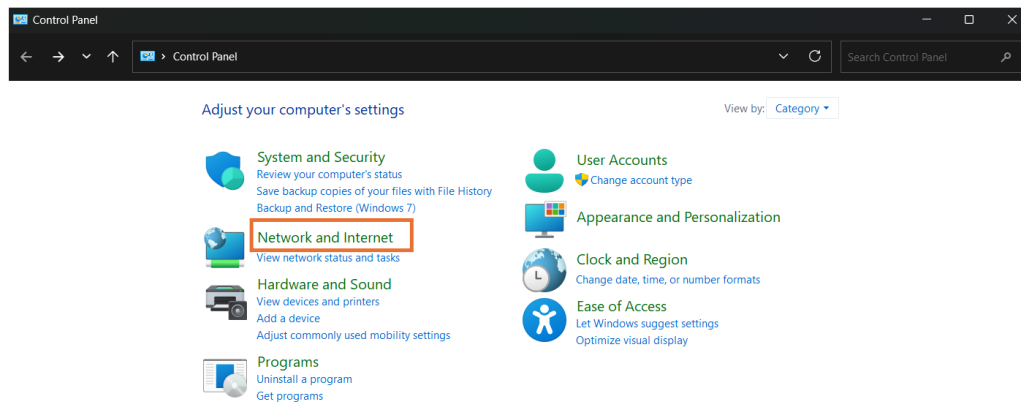

Figure 5.19. Control Panel
2. Click **Network and Internet** as shown in Figure 5.19.